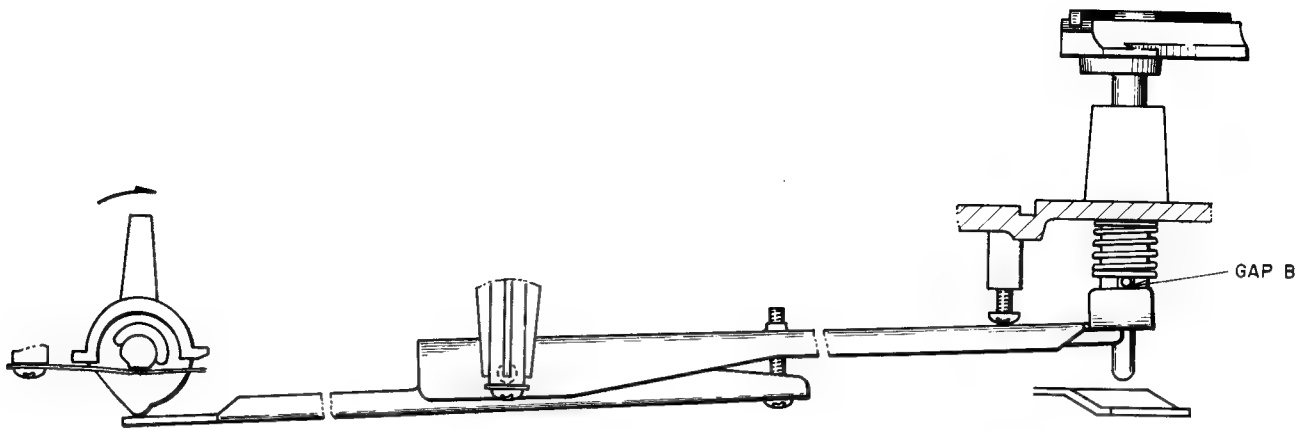

Fig. 10
- tion control at ▼, adjust screw (b) at exactly the point where the gap (B) between the shaft pin and the elevation lever (A) disappears. (Refer to Fig. 10.)